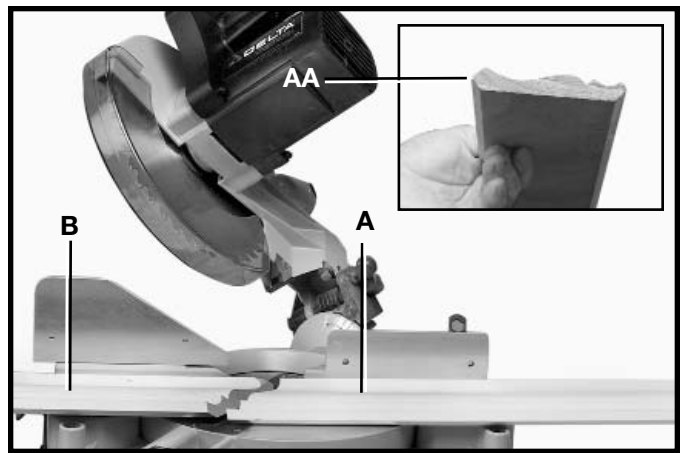
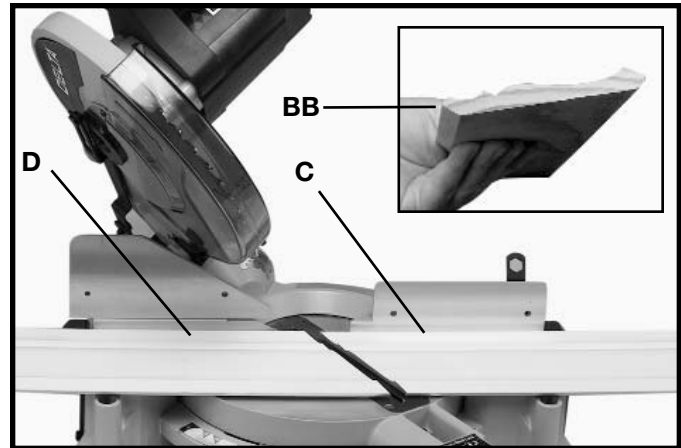
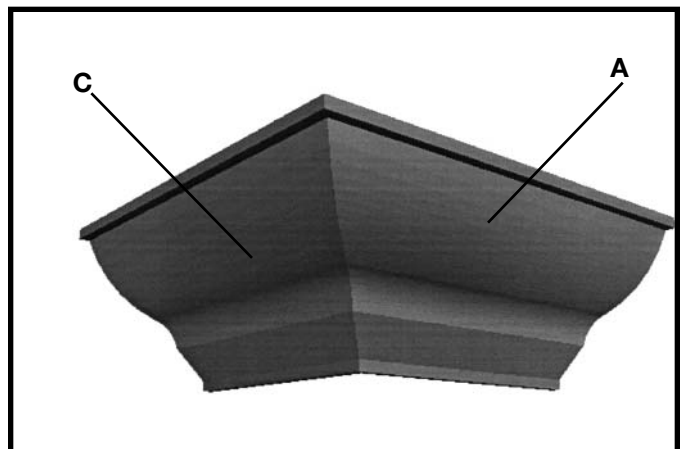
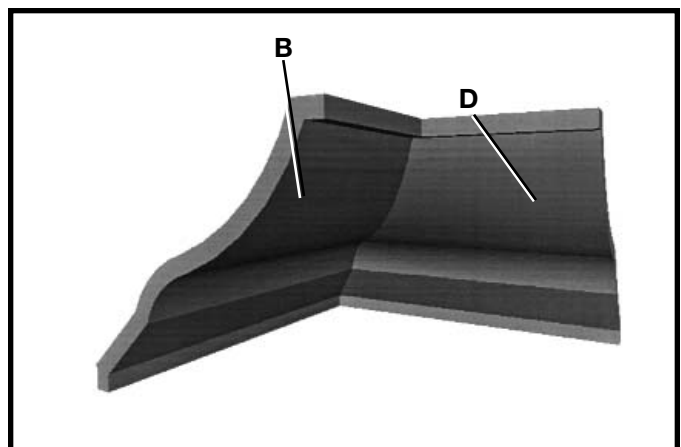

Fig. 35
Fig. 36
Fig. 37
Fig. 38
3. Place the crown moulding on the table with the **CEILING EDGE** (AA) Fig. 35 of the moulding against the fence, and make the cut (Fig. 35). **NOTE:** The piece of crown moulding used for the outside corner will always be on the right hand side of the blade (A) Fig. 35. The piece of crown moulding used for the inside corner will always be on the left hand side of the blade (B) Fig. 35.
5. Place the crown moulding on the table with the **WALL EDGE** (BB) Fig. 36 of the crown moulding against the fence and make the cut. Again, the piece of crown moulding used for the outside corner will always be on the right side of the blade (C) Fig. 36. The piece of crown moulding used for the inside corner will always be on the left side of the blade (D) Fig. 36.
6. Fig. 37 illustrates the two outside corner pieces - (A) being the piece cut at (A) Fig. 35, and (C) being the piece cut at (C) Fig. 36.
7. Fig. 38 illustrates the two inside corner pieces - (B) being the piece cut at (B) Fig. 35, and (D) being the piece cut at (D) Fig. 36.